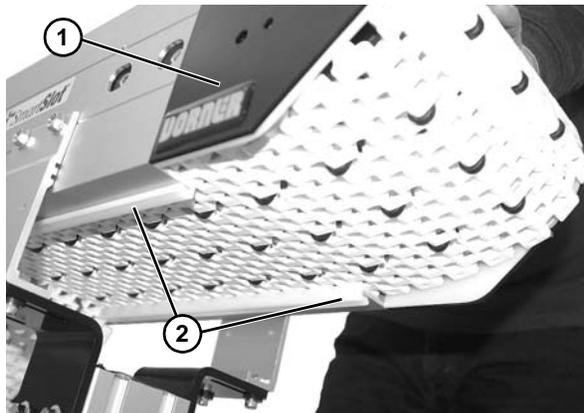

Figure 16
- Wrap belt around idler tail (Figure 16, item 1).
- Install belt around lower frame section and above lower wear strips (Figure 16, item 2).